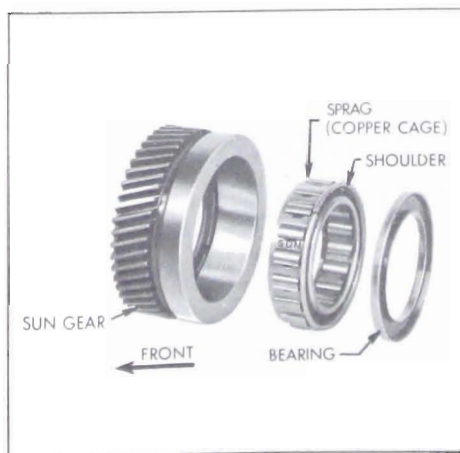

Figure 5-47—Sun Gear Parts
6. Remove bearing and sprag assembly from the sun gear. See Figure 5-47.
6. Install sprag in bore of sun gear with shoulder out then carefully press bearing in place. See Figure 5-47.